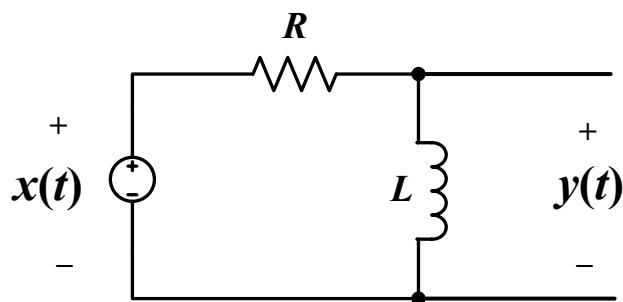

Fig. 3
Very similar to exercise 1, except this time you will experimentally investigate the frequency response of a RL circuit as shown in Fig. 3. You will then need to create the magnitude and phase plots for $y(f)/x(f)$ for the RL circuit. Perform the following steps:
1. Build the circuit in Fig. 3 on a breadboard, with $R = 1\text{k}\Omega$, $L = 100\text{mH}$.
5. Based on the data that you obtained from steps (3) and (4), plot the gain and phase responses of the RL circuit (see step 5 in exercise 1). Comment on the plots. What type of filter is the RL circuit? Explain.